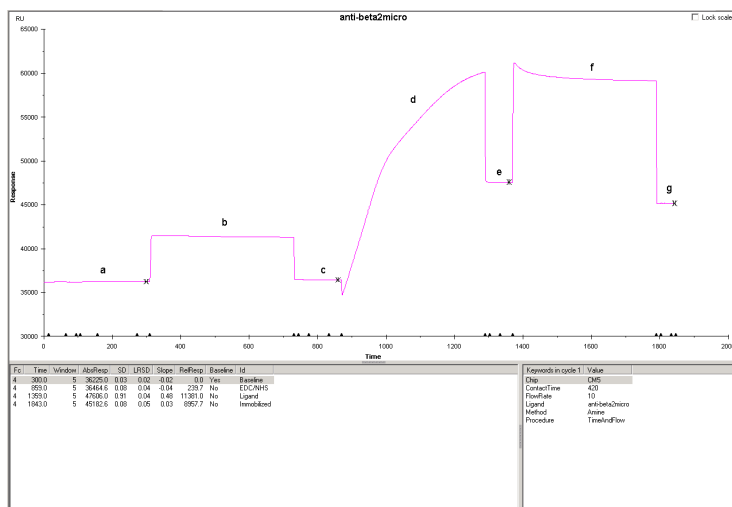

Figure 15. Immobilization sensorgram.
- 10 Move the **Immobilization Results** dialog box out of the way so that you can compare the resulting sensorgram you obtain with the sensorgram in Figure 15.